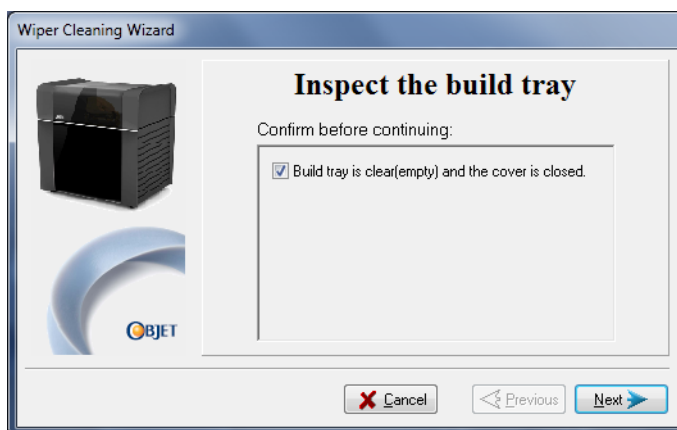

Figure 6-24: Wiper Cleaning procedure—step 4
10. In the wizard screen (see figure 6-24), confirm that the wiper blade is clean, and click **Next**.